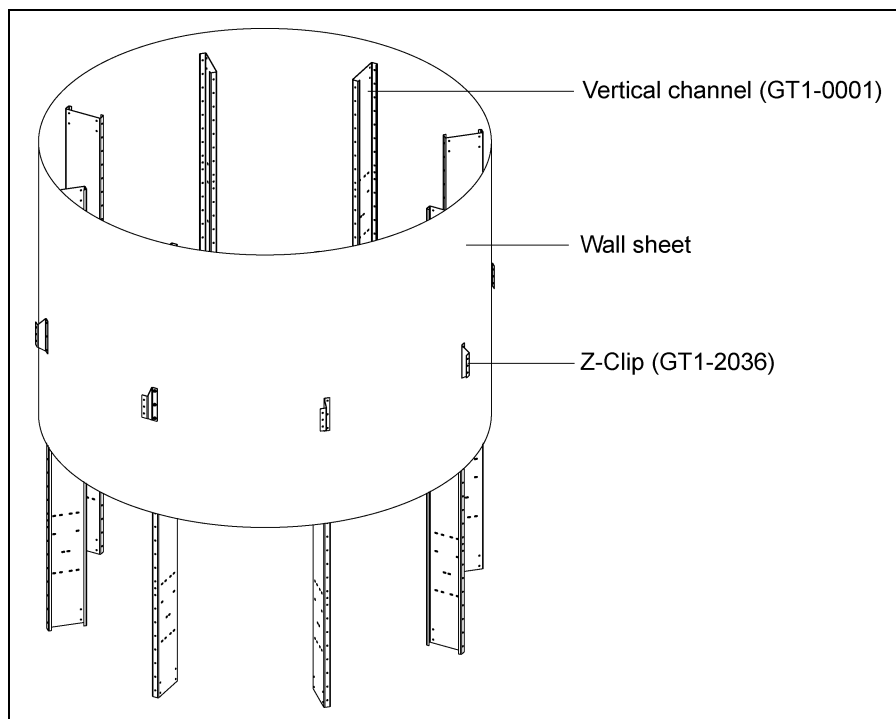

Figure 4A
1. Bolt Z-clip (GT1-2036) to all vertical channels (GT1-0001). The Z-clip can be installed on each vertical channel as wall sheets are installed using 3/8"-16 x 1" JS grade 8 or grade 8.2 bolts (S-7485) and 3/8"-16 ZN grade 5 nuts (S-968). (See Figure 4A and Figure 4B.)